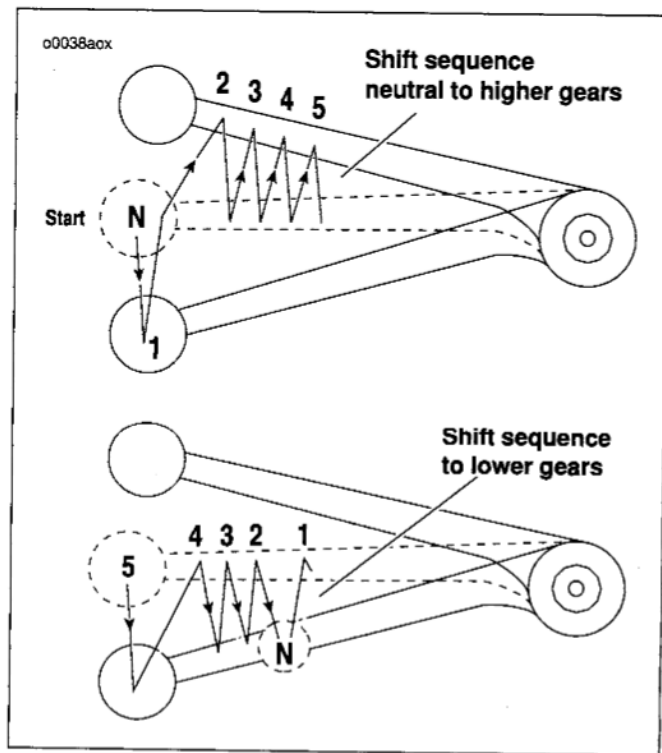

Figure 30. Speed Shifting Sequence
*See Figure 30. Always start motorcycle engine in neutral. Always start motorcycle from first gear when the engine is running.*
5. See Figure 30. Gear shift pattern is first gear down; next four gears up.